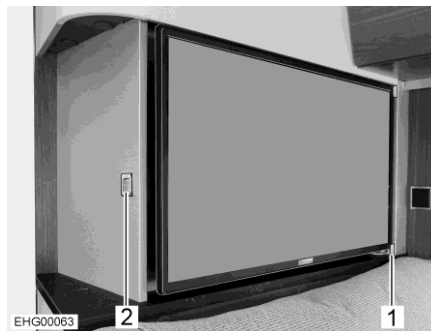

Fig. 95 Flat screen
The flat screen is secured on the side by a guide rail (Fig. 95,1).
- Press the release button (Fig. 95,2).
- Pull flat screen out of the guide rail (Fig. 95,1), into the desired position.
- Push flat screen back until it engages in the guide rail (Fig. 95,1) on the side.